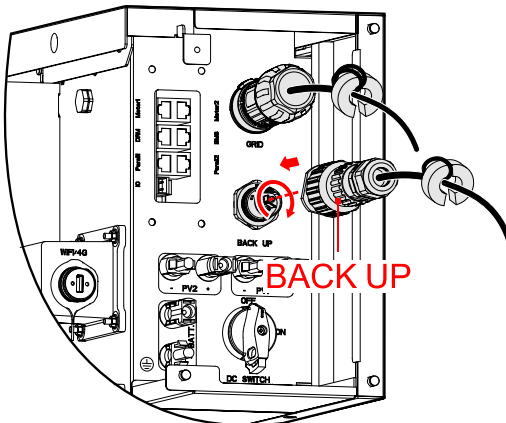

Figure3-52 Insert the BACKUP terminal
Step 6 Connect the BACKUP wire to the BACKUP port. As shown in Figure3-52.